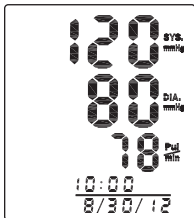

Fig. 3
4. When the measurement is complete, your blood pressure and pulse reading results will show on the display screen at the same time, Fig 3.